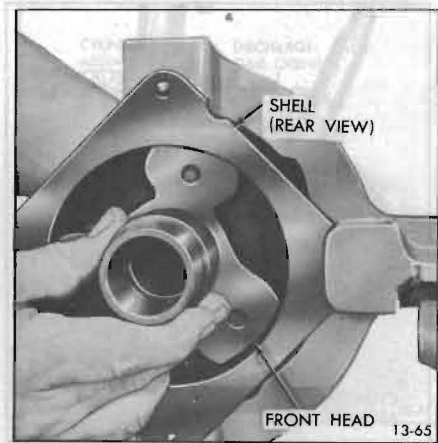

Figure 13-65—Removing Front Head
3. Disassemble front head from shell by tapping front head with a mallet to unseat head, and lifting straight out through rear of shell (see Figure 13-65). Discard "O" ring.